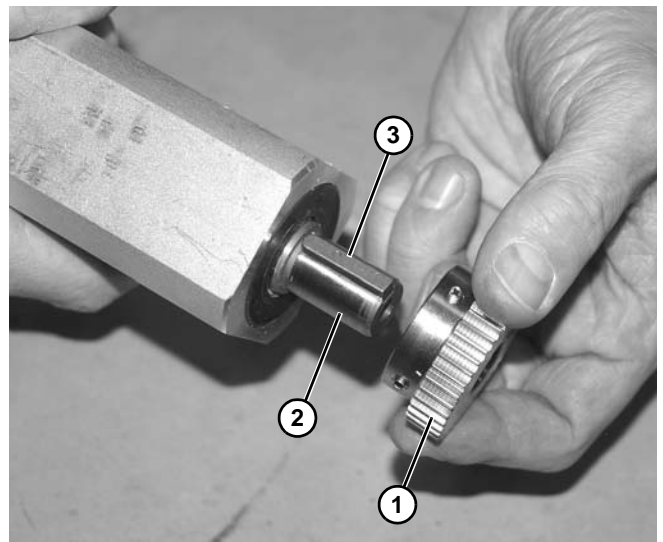

Figure 62
8. Remove gear (Figure 62, item 1) from motor shaft (Figure 62, item 2).
9. Remove key (Figure 62, item 3) from end of motor shaft.